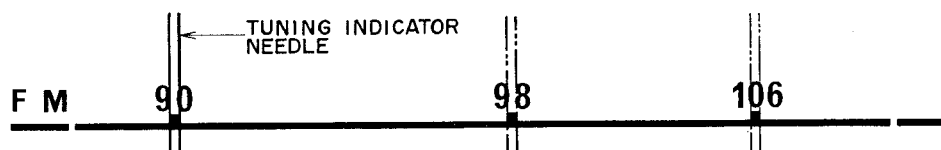

Fig. 13
- 2) In case of replacement of Front End or dial string, with varicon capacity at maximum position, set tuning indicator needle to end of dial (position indicated by dotted line in Fig. 13), and then replace.